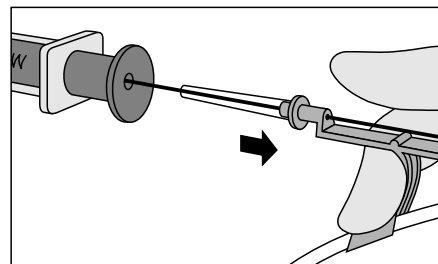

Fig. 7
- Lift your thumb and pull the Advancer™ approximately 4 cm to 8 cm away from the syringe. Lower thumb onto the Advancer™ and while maintaining a firm grip on the spring-wire guide, push the assembly into the syringe barrel to further advance the spring-wire guide. Continue until spring-wire guide reaches desired depth (refer to Fig. 7).